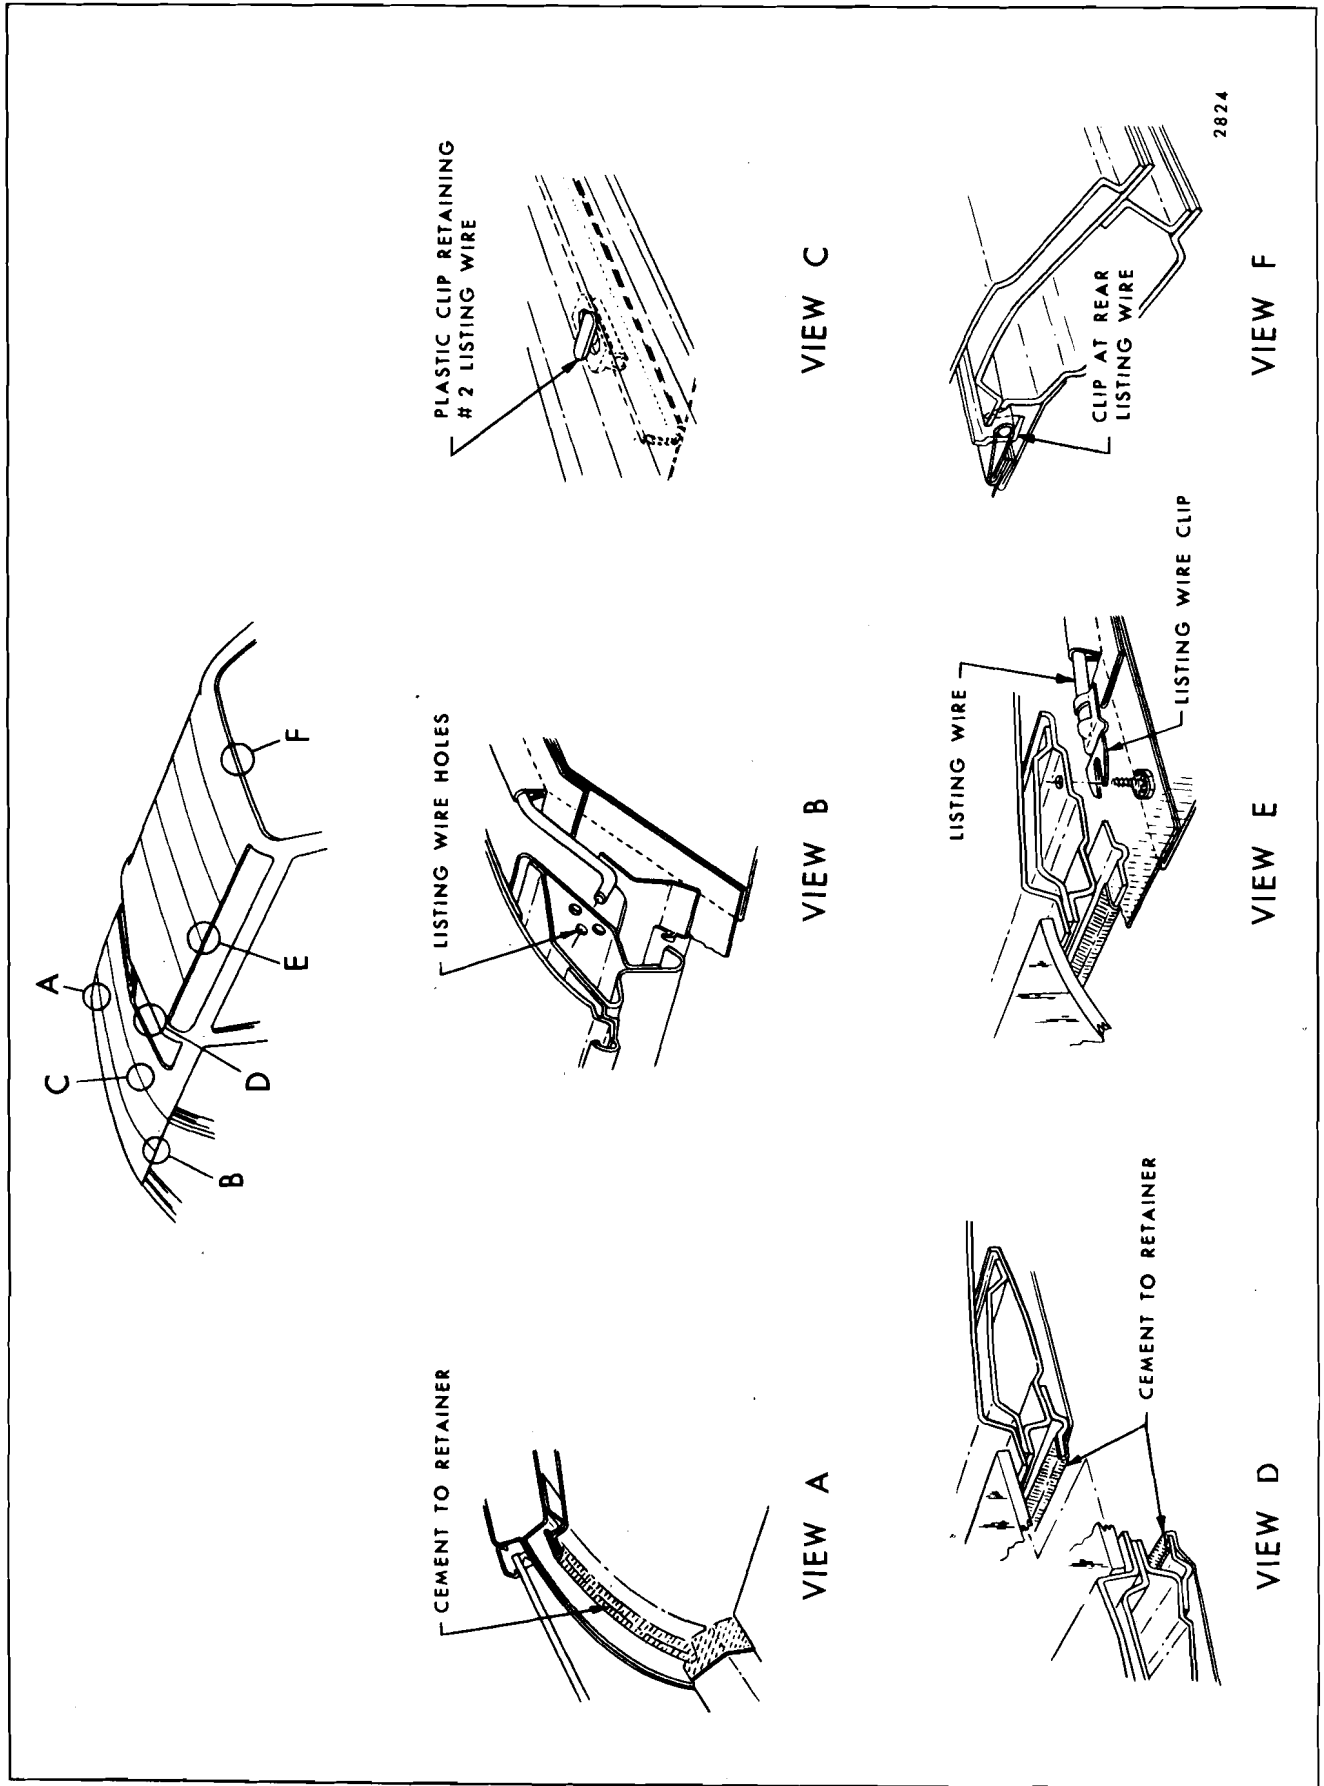

Fig. 11-3—Headlining Installation "55, 65, 56, & 66" Styles
lining is formed to the contour of the roof panel by concealed listing wires. The ends of the listing wires are installed into holes in the side roof inner rails, and may be adjusted up and down or fore and aft (View "B", Fig. 11-3).
The headlining material is cemented to metal retainers and side roof rail pinchweld flanges (View "A", Fig. 11-3). Escutcheons, moldings, and finishing lace cover the edges and assist in holding the material in place.
The rear headlining is formed to the contour of the roof panel by concealed listing wires. The ends of the listing wires are installed into clips which are secured to the side roof inner rails by screws (View "E", Fig. 11-3). The edges of the material are cemented to the retainer flanges. Finishing lace and moldings cover the edges and assist in holding the material in place.
4. Disengage No. 2 listing wire from plastic clips on structural bow and remove No. 1 & 2 listing wires from inner rails. Gather or roll headlining with listing wires on outside to keep headlining clean and remove old headlining assembly. (See Fig. 11-3, View "C")
4. Lift headlining into body, install No. 1 & 2 listing wires into holes in side roof rails and snap No. 2 listing wire into plastic clips on structural bow (see Fig. 11-3, View "B & C").
4. Starting at front remove listing wires from roof inner rails (see Fig. 11-3, View "E").
5. At rear listing wire, bend down tabs securing wire to bow (see Fig. 11-3, View "F").
4. Lift headlining into body, install center of rear listing wire over metal tabs at rear bow and bend down tabs (see Fig. 11-3, View "F").
5. Working forward install remainder of listing wires into clips and secure clips to roof. (see Fig. 11-3, View "E").